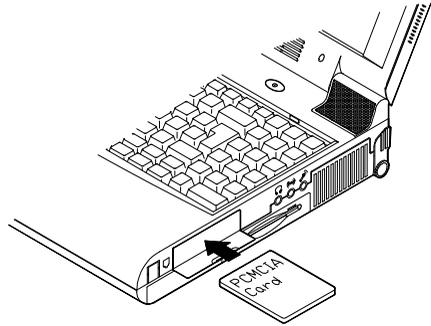

Figure 2-17
- 2** Push the PC card into the slot with a click (Figure 2-17).